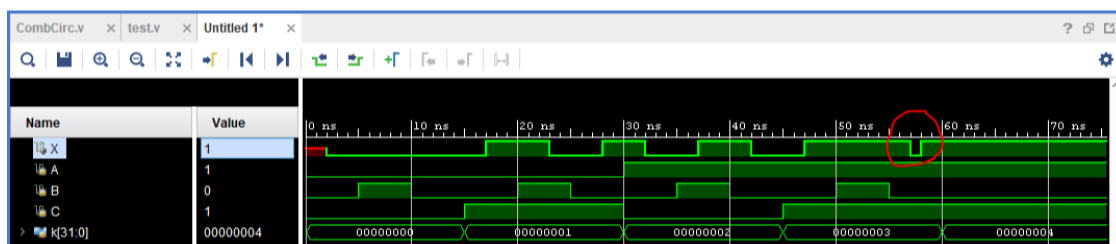

Figure 2. Simulation Waveform of the Circuit
Now, you can simulate your test bench in the Vivado simulator, and you will get the waveform as shown in Figure 2 below. The red circle on the waveform specifies the glitch. It happens when **A** is 1, **C** is 1 and **B** changes from 1 to 0. The duration of the glitch is 1ns.
Examine the output of your simulation (and Figure 2 below shows a similar simulation). In the simulation below, the reset signal is asserted at 300ns (the zoomed-in graph on the left shows a more detailed view). Note that it takes 2 ns for the reset signal R to propagate through the NAND cell (this is due to the 1ns gate delays you added into your simulation). Then at 600 ns, both set (S) and reset toggle from 0 to 1 at exactly the same time. When S and R are deasserted exactly simultaneously, the basic cell tries to enter the hold condition from the ambiguous condition of being directed to both set and reset at the same time. This sets up an oscillation, based on the gate delays we chose. In an actual, physical circuit, this high-speed oscillation may drive the basic cell output from rail to rail at the same oscillation frequency, or due to pin loading, the output voltage may only change by a few hundred millivolts. In any case, this is an unstable condition that is commonly referred to as “meta-stability”.
Figure 2. SR-Latch simulation waveform. (Screenshot above is from the Vivado Simulator running on Microsoft Windows 10. Altered to enhance visual understanding.)